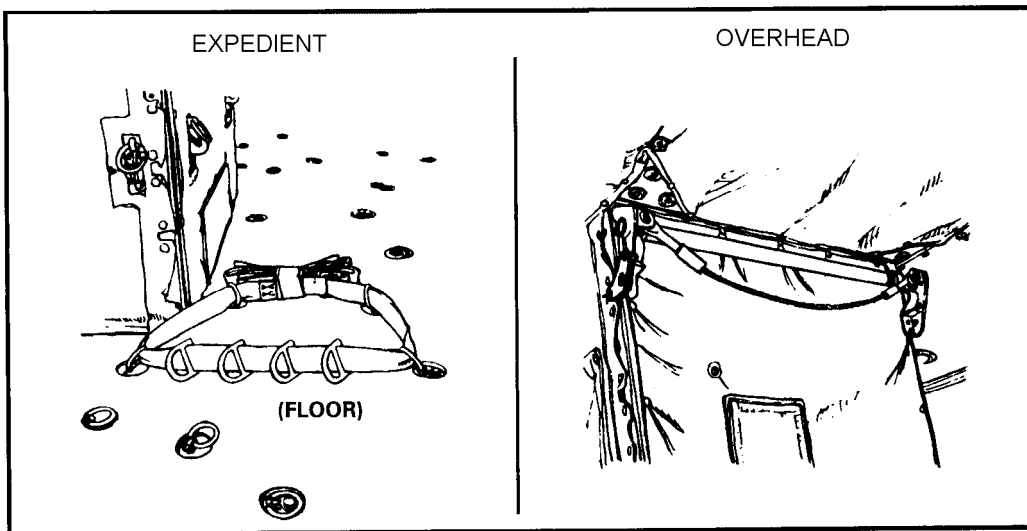

Figure 17-3. UH-1 anchor line system.
**b. Anchor Line Systems.** Two anchor line systems are available with the UH-1H aircraft for airdrop of personnel. They are the *standard overhead system* and the *expedient system* (Figure 17-3). The expedient system (A-7A anchor line cable assembly) consists of a cotton A-7A strap, four D-rings, and four connector snaps (TM 10-1670-240-20/TO 13C7-49-11 authorized the fabrication of the A-7A strap from Type X cotton webbing). Nylon A-7A straps may be used with cotton buffers on the D-rings and connector snaps.